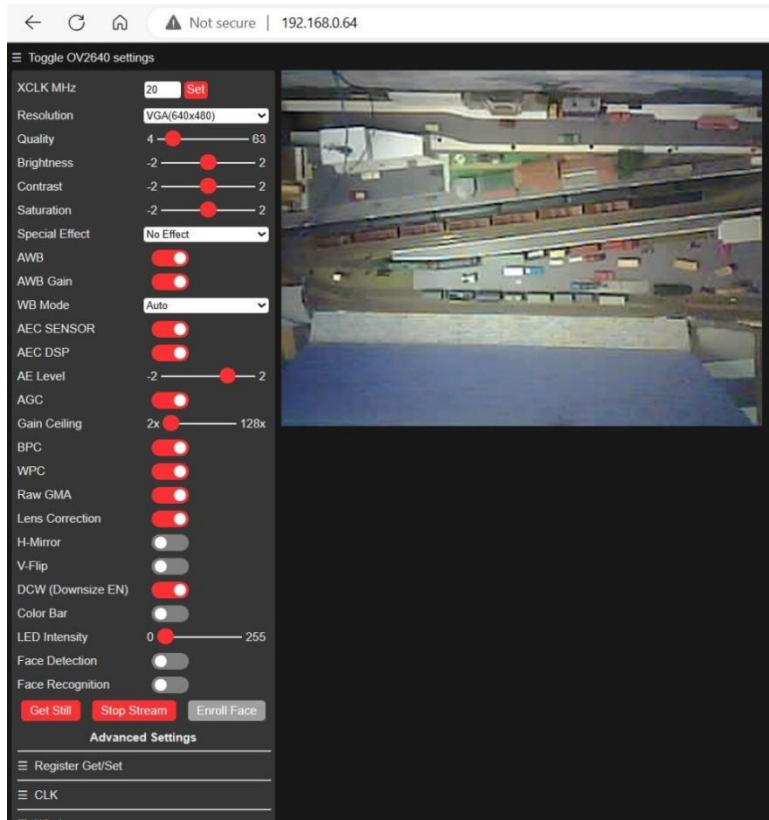

Figure 1. webCAM mode
Figure 1. is an example of the standard webCAM browser presentation. It is a very useful mode for alignment and as a training aid in investigating the effects of the many video adjustments possible, but does not allow placement of sensors as sensorCAM mode can't be simultaneously enabled.
5.6 The CAM can be switched to WiFi video mode with the '**v1**' command. '**v2**' will select an alternate WiFi network. ('**v**' will give sensorCAM software version). '**v1**' (or '**v2**') will reboot and load WiFi mode connecting to the network selected, and providing a URL e.g. <http://192.168.0.xx> that can be used to connect with a browser. An image, like **Figure 1** above, should be seen with controls for experimenting with Brightness etc. This image is educational but not necessarily a good indication of the sensorCAM (sensor mode) image because of the unpredictable parameter effects. To see a more reliable image run the PROCESSING 4 *SensorCAM.pde* monitor instead of Arduino IDE monitor (refer Section 6.). To exit video mode, try the monitor command 'R' (or 'F') If this